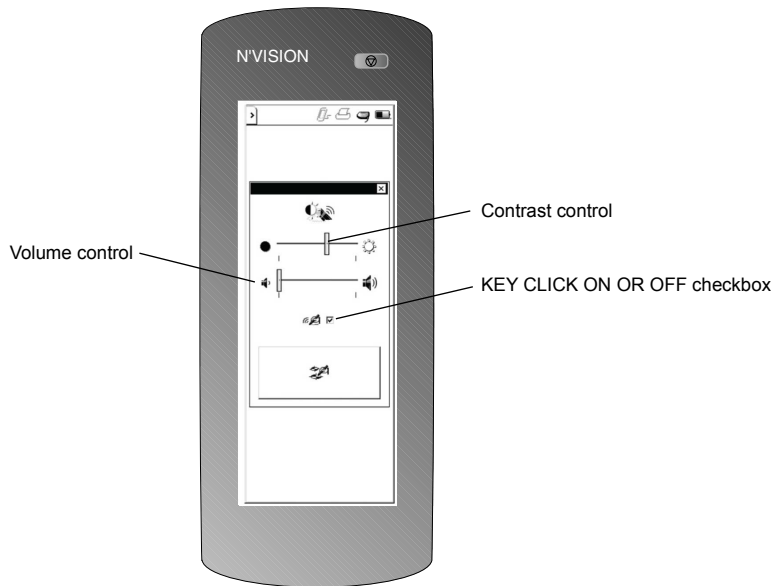

Figure 50. PROGRAMMER SETTINGS screen.
3. Slide the contrast control bar to desired setting (Figure 50).
3. Slide the speaker volume control bar to desired setting (Figure 50 on page 94).
3. Select the KEY CLICK ON OR OFF checkbox (Figure 50 on page 94).